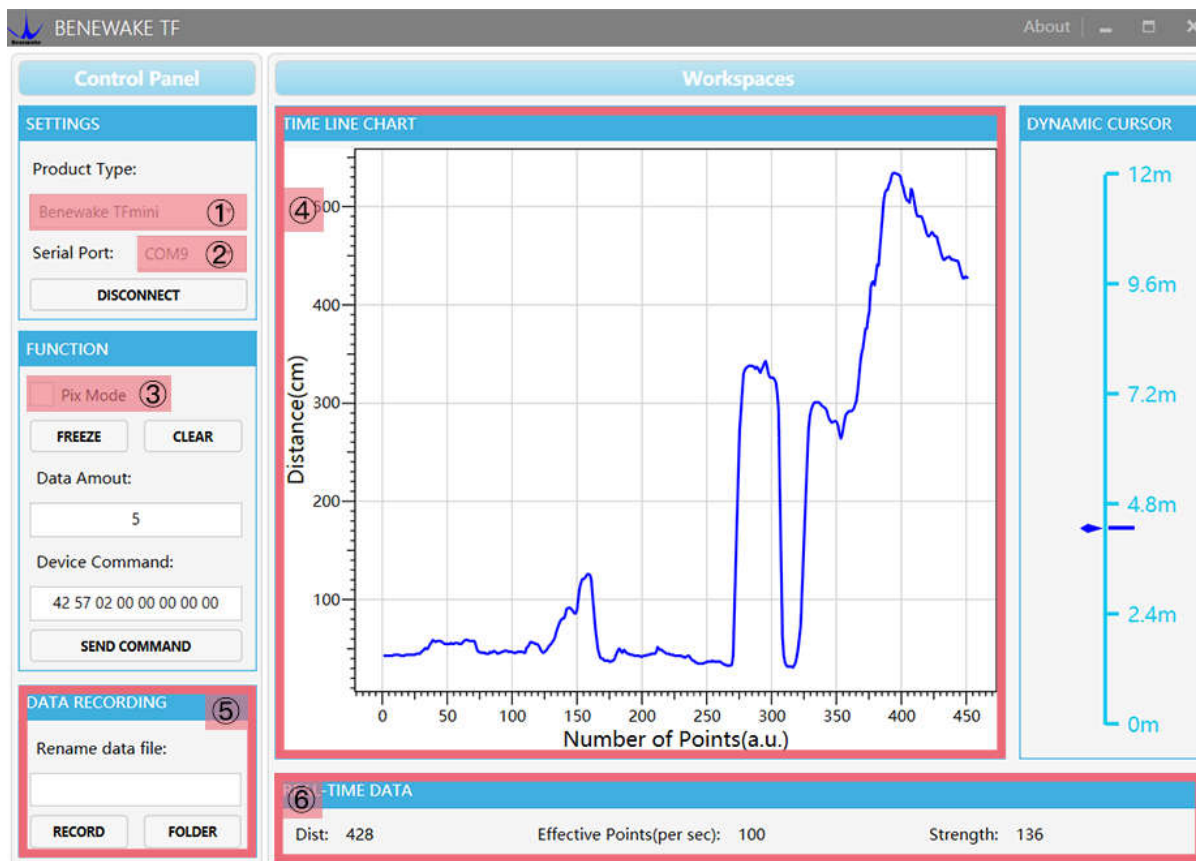

Figure 5 Software Interface and Display
③ Connection to the Test software and data output
Open the PC software and select "① TFmini" and select automatically recognized occupied serial port (here it is "② COM9"), as shown in Figure 5